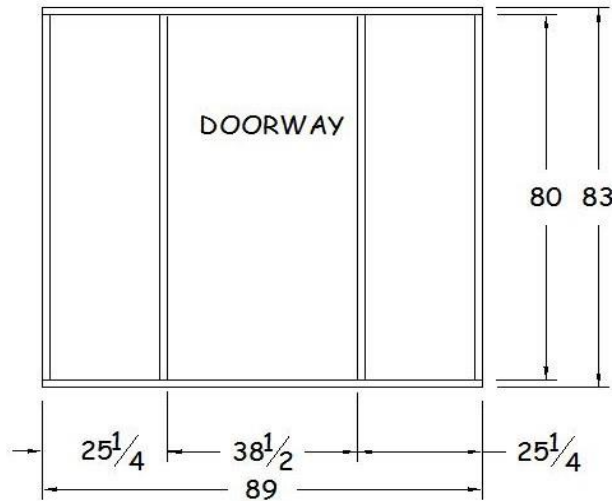

Figure 22-3. Front Wall Framing.
- a. Cut two pieces of 2x4 to 89" lengths. Pair them as upper and bottom plates and lay out stud locations as shown in Figure 22-3.
- c. Assemble the wall by nailing through the upper and bottom plates into each stud with two 16d nails. Leave space for the doorway as shown in Figure 22-3.